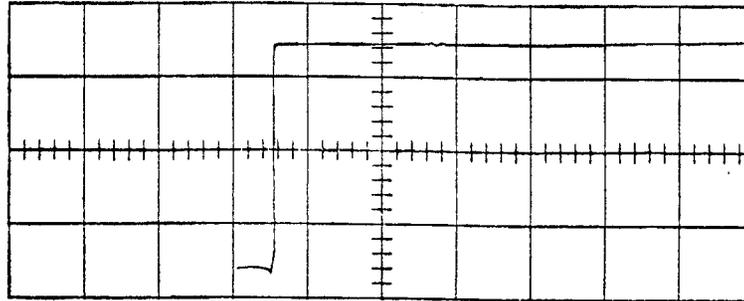
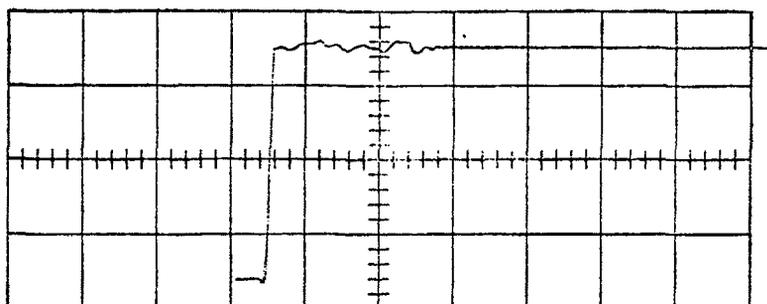

Fig. 2. Appearance of the display on a properly adjusted oscilloscope.
Fig. 7. Illustrating severe wrinkles along flat top of waveform. This condition requires detailed adjustment.
- Turn the AMPLITUDE control on the Type 53/54P 90 degrees right. Turn the COIL CURRENT switch ON. Turn the Main Sweep TRIGGERING LEVEL control slowly toward 0 until you observe a stable display having the general appearance of Fig. 2, including the entire rising portion of the waveform at the left-hand part of the graticule. Adjust the FOCUS and INTENSITY controls for the sharpest possible trace. Set the AMPLITUDE control for a suitable amount of vertical deflection (for example, 3 centimeters). Adjust the VERTICAL POSITION control so that the display is centered vertically on the graticule.
4. Are there any excessive wrinkles along the flat top of the displayed waveform (Fig. 7)? Wrinkles normally will not exceed about 1 tracewidth in amplitude. Excessive wrinkles can cause aberrations in the display of a fast waveform. Wrinkles along the flat top of the displayed square wave might result from gradual changes in delay-line adjustments caused by vibration. Wrinkles as severe as those in the display of Fig. 7 would perhaps appear only if the oscilloscope were subjected to excessive vibration or shock, or to severe temperature variations. Figure 7 illustrates a case where the entire delay line needs readjustment. In a case like this, proceed directly to the section
5. There will often be a slight wrinkle called a "termination bump" in the displayed waveform, located about $2\frac{1}{2}$ centimeters to the right of the corner of the waveform (see Fig. 2). Does the termination bump appreciably exceed about 2 tracewidths in amplitude (as in Fig. 8)? Or are there perhaps two or three other small bumps along the flat top of the waveform as shown in Fig. 8--and as contrasted to the severely wrinkled display of Fig. 7? If so, reset the
6. Does the leading edge of the waveform, at the left-hand end of the graticule, appear normal? If the oscilloscope is correctly adjusted, the leading edge of the waveform will rise steeply as shown in Fig. 2, and the corner will be sharp without appreciable rolloff or overshoot.
When the adjustments are completed, the corner and the leading edge of the displayed waveform should look like those of Fig. 2.